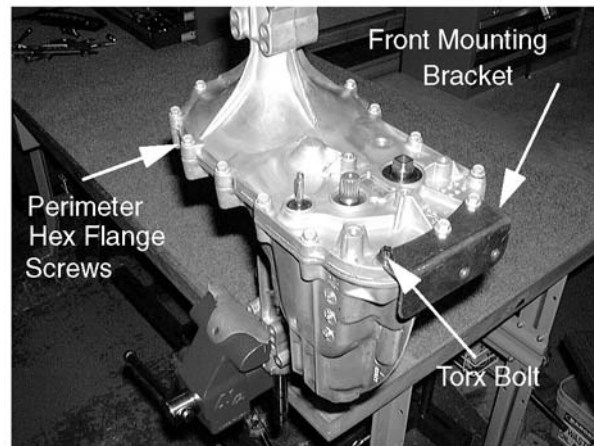

Figure 6-78.
21. Place the front mounting bracket onto the side housing and secure it with the male torx bolt using a 5/16" - 12 point socket. See Figure 6-78.